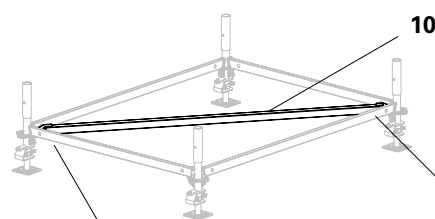

Fig. A1.02
2. Right-angle adjustment of the frame with H-Brace (10). (Fig. A1.02)
3. Horizontally align frame by adjusting the Adjustable Base Plates (1).